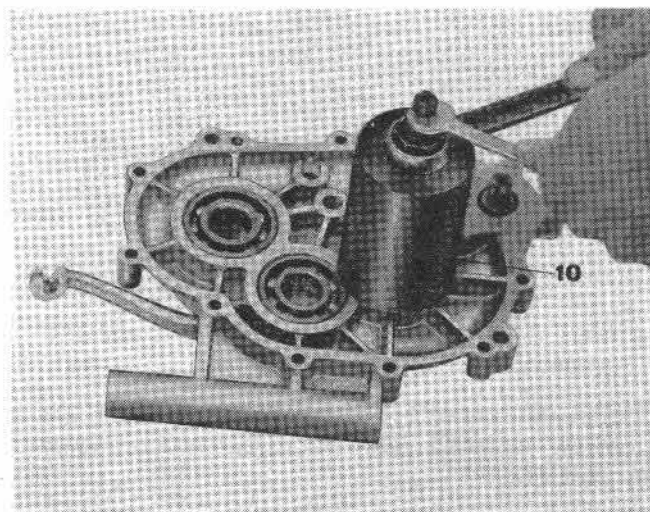

Fig. 81
- Ball bearings for mainshaft and clutch shaft, using puller No. 12907000 (see 10 on Fig. 81 - 82).